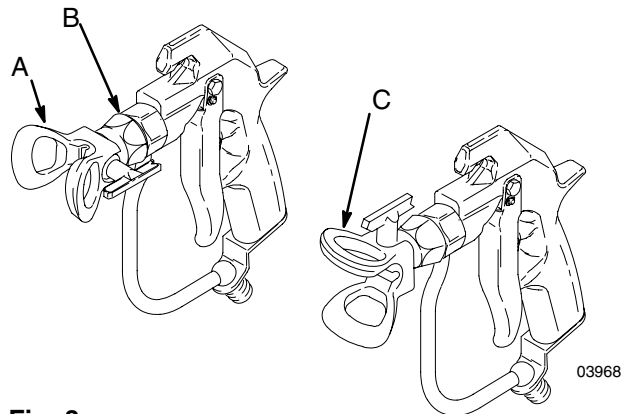

Fig. 3 _____
1. To adjust the spray pattern direction, relieve pressure. Loosen the tip guard retaining nut (B). Turn the tip guard/tip groove horizontally (C) for a horizontal pattern and vertically (A) for a vertical pattern. Tighten the nut. See Fig. 3.